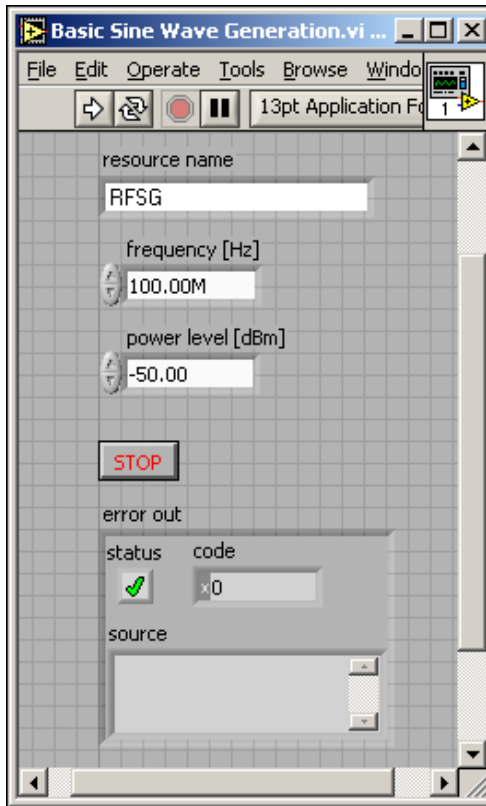

Figure 10. Basic Sine Wave Generation VI Front Panel
8. Display the VI front panel by clicking it or by selecting *Window»Show Front Panel*. Verify that your VI front panel looks like the example in Figure 10 below.